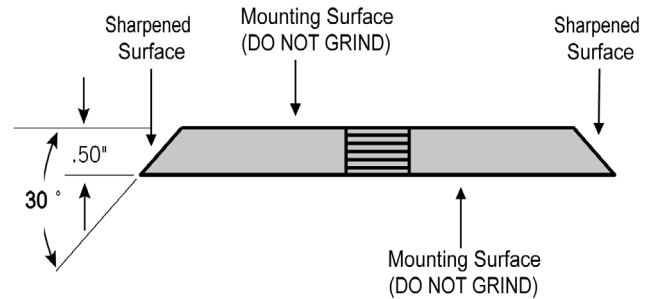
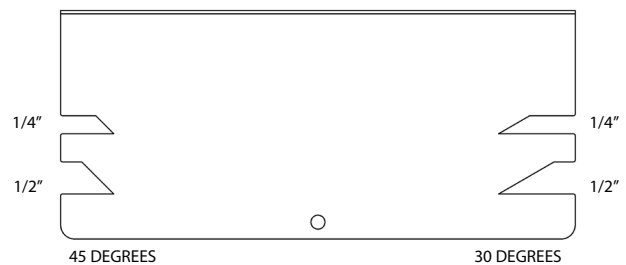

Figure 5.7.1
Figure 5.7.2
2. Regrind the angled edge of the chopping blades to 30 degrees (Figure 5.7.1). Use the blade angles on the anvil spacing gauge when sharpening the blades to achieve the proper angle (see Figure 5.7.2).